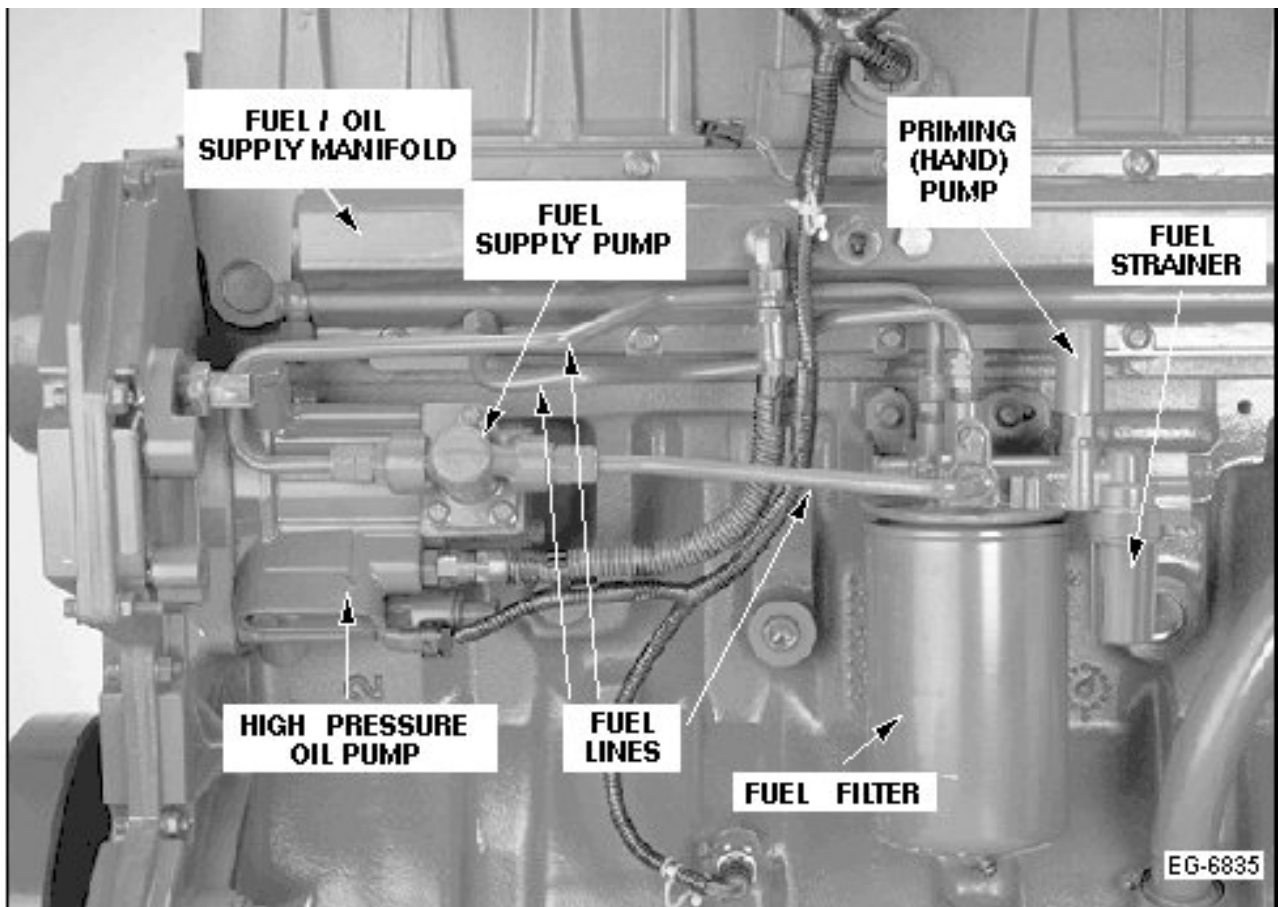

Figure 1 Fuel System Components
- **Fuel Supply System** (See Figure 1, page 6)